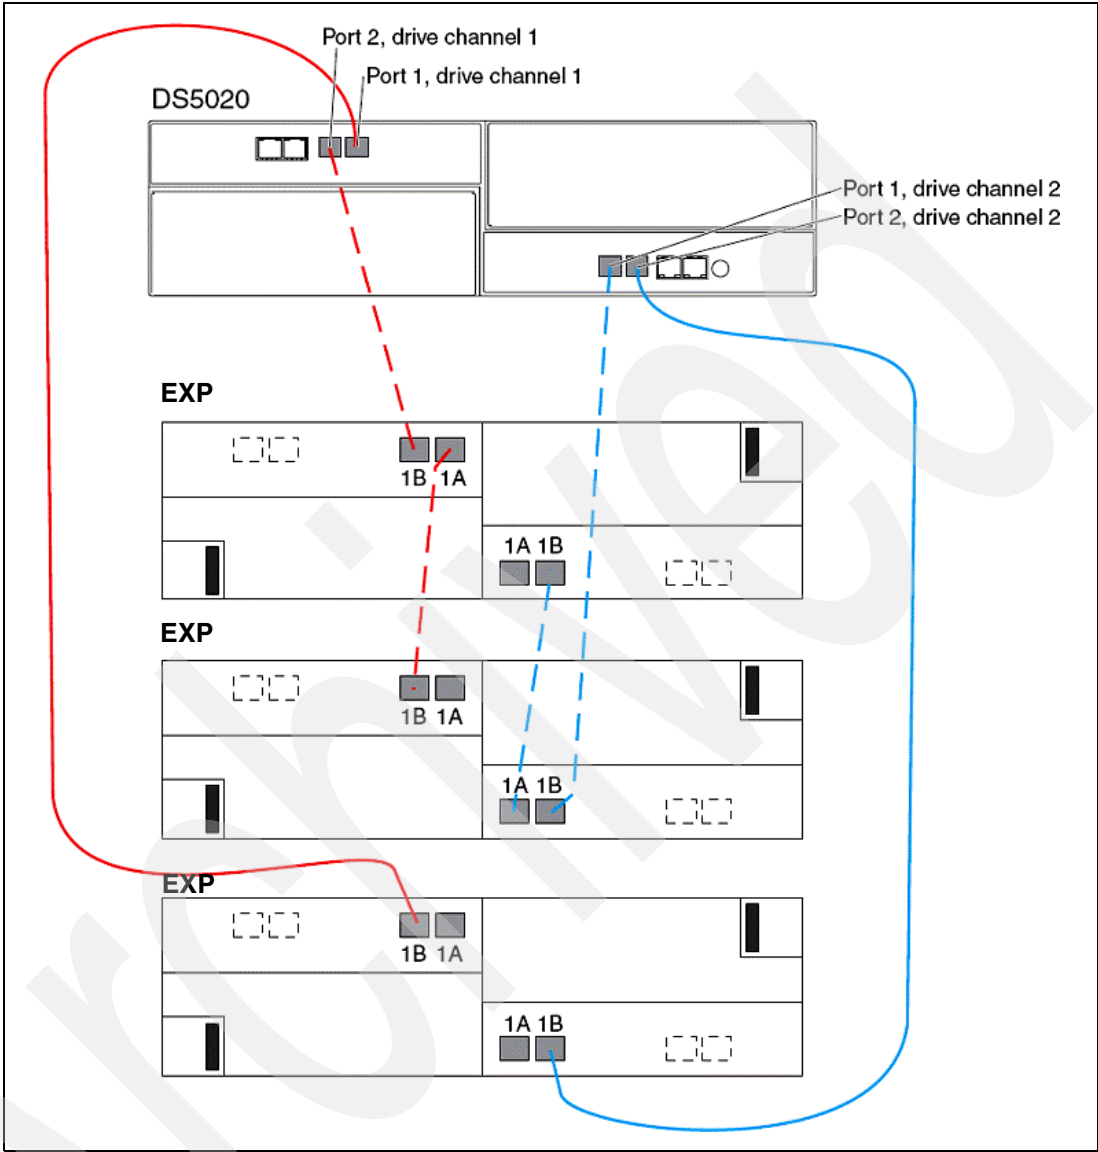
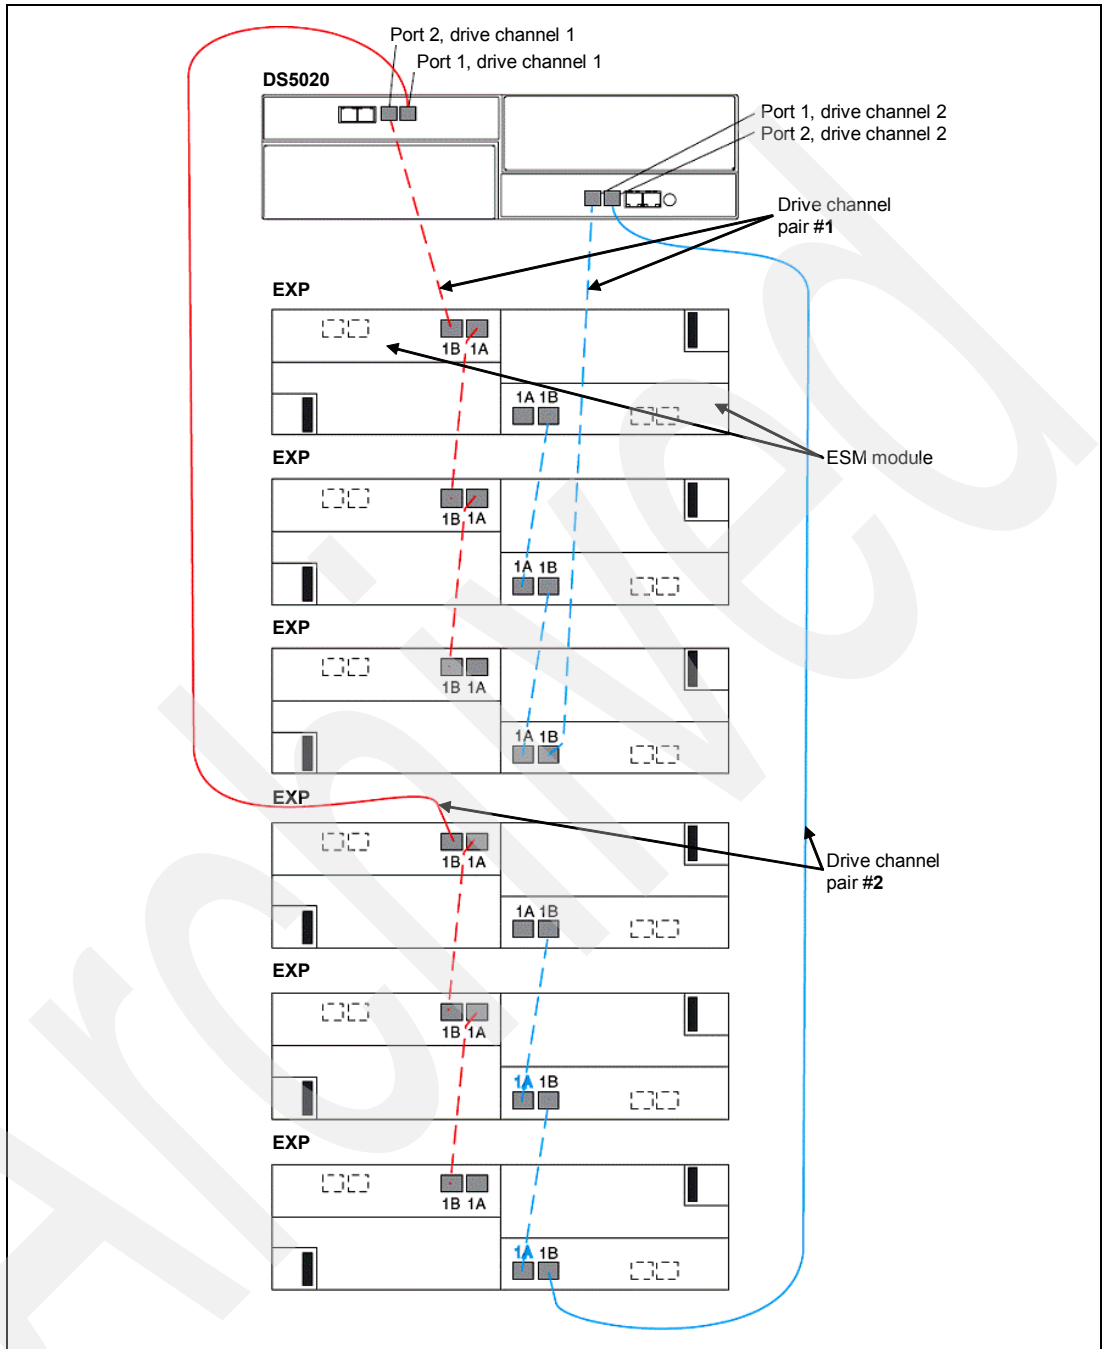

Figure 3-66 DS5020 drive cabling with three EXPs
Figure 3-67 DS5020 drive-side cabling with six EXPs
- Beyond two enclosures (up to a maximum of six), make sure that you equally distribute the enclosures among the redundant drive channel pairs (Figure 3-66 and Figure 3-67 on page 90).
When six enclosures are required, the same method is employed again, maintaining drive channel redundancy and using both controllers, as shown in Figure 3-67.
As shown in Figure 3-67, the DS5020 is cabled using all two-drive channel pairs, assuming that there are six expansion enclosures (EXP) evenly spread out across the drive channel pairs (three enclosures each).